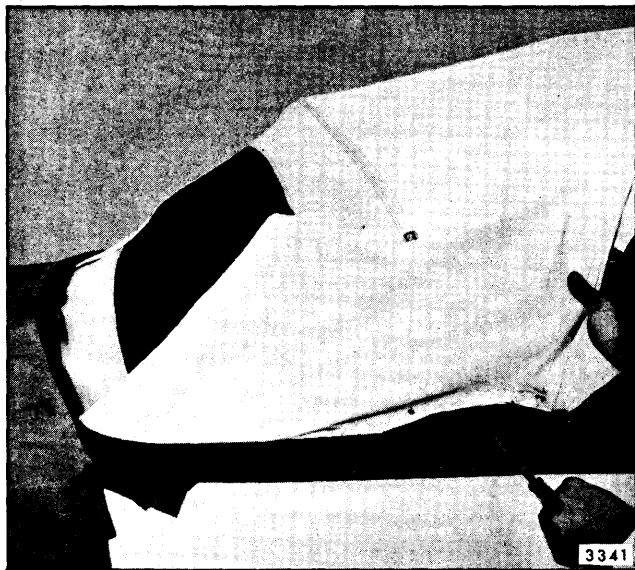
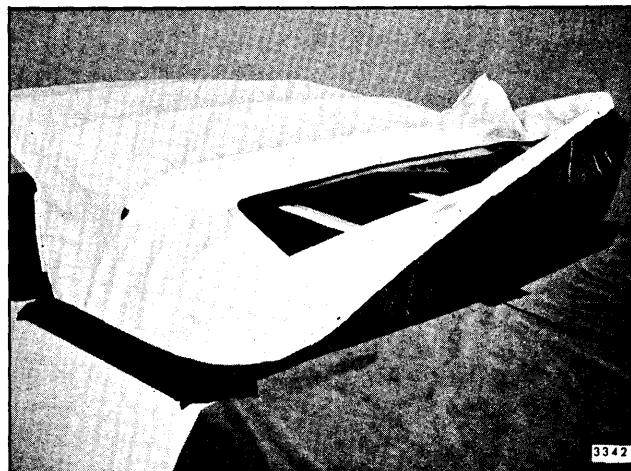

Fig. 13-11—Raising End of Trimstick "A" Styles
Fig. 13-12—Raising Balance of Trimstick "A" Styles
On "A" styles, with top two to four inches off header, move one end of trimstick inward for clearance. Then pry it upward between hinge and body to clear rear side roof rail (Fig. 13-11). Raise removed end of trimstick upward and forward. Then continue by removing balance of trimstick above body belt line (Fig. 13-12 and 13-13).
8. Position rear trimstick(s) into body in reverse of removal operations (See Step 12 of Removal of Folding Top and Back Curtain Trim Assembly, Fig. 13-12 or 13-14).